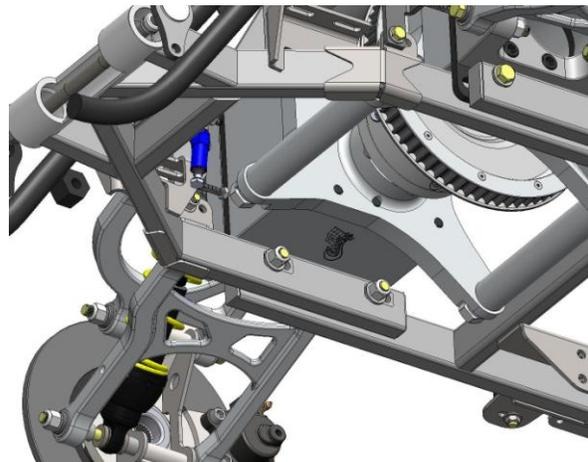

Figure 14
- b. Reinstall Swing Arm and Body Mount Frame to unit using hardware removed. Install bolts and leave loose for belt adjustment later. Figures 14 & 15 (Note: 2001 and down HD models use Swing Arm part # SU-F01-005; 2002 and up HD models use Swing Arm Part # SU-F01-006.)
NOTE: USE FRONT HOLES ON THE SWING ARM FOR ALL 2008 DOWN APPLICATIONS. Figure 14